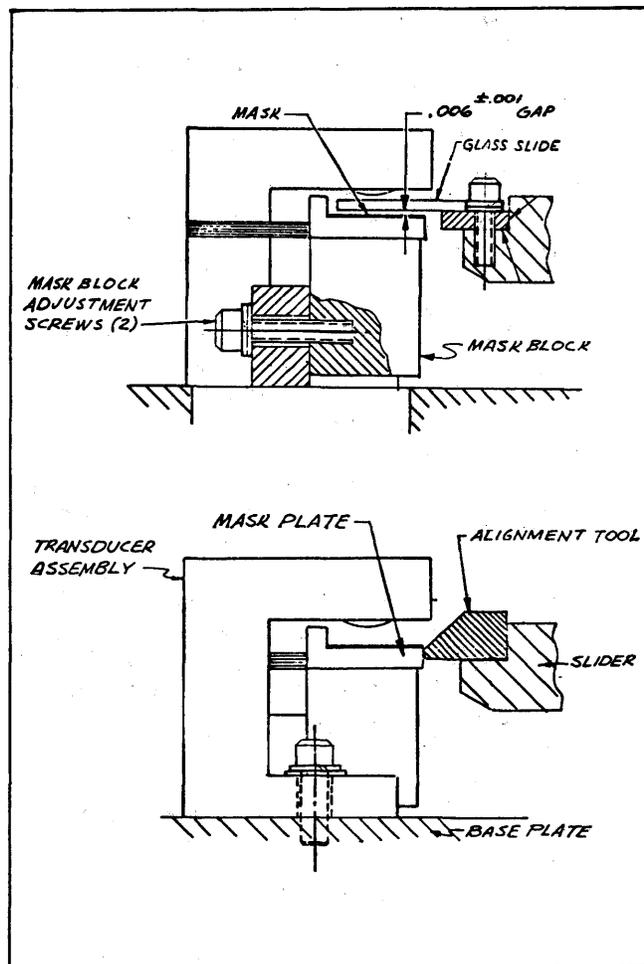

Figure 5-15. Positioning of Detent and Mask Assemblies (9481-12 Only)
1. Replacement and Alignment of Detent Assembly (Figure 5-15)